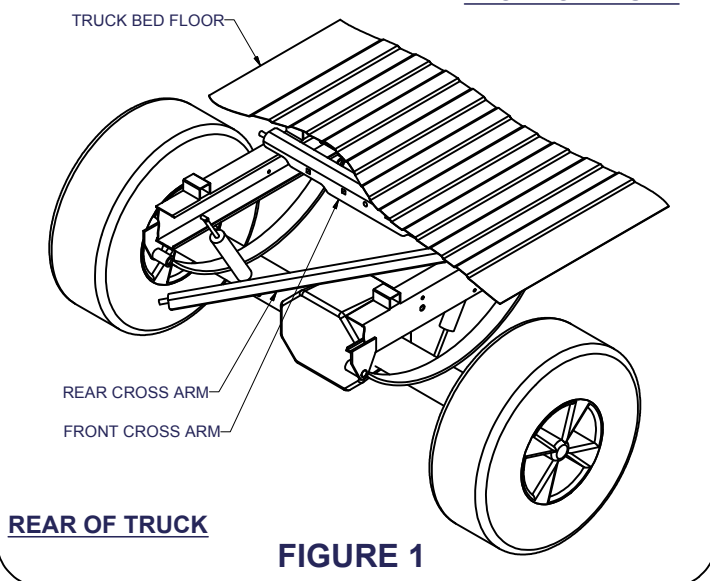

FIGURE 1
- 3) Install the front cross arm by sliding it between the truck bed and truck frame on the passenger side. Swing the driver's side into place as shown in **FIGURE 1**, then push the cross arm towards the front of truck. **(NOTE: HOLES IN THE CROSS ARM MUST BE FACING THE BACK END OF THE TRUCK)**
- 4) Install the rear cross arm by sliding it between the truck frame and truck bed on the passenger side. Swing the driver's side into place as shown in Figure 1, then push the cross arm towards the back of the truck.